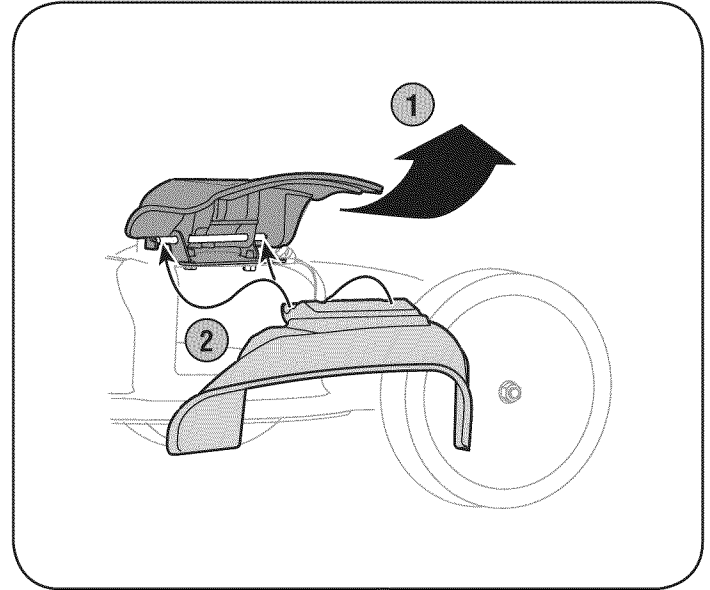

Figure 7
1. On the side of the mower, lift the mulching plug. See Figure 7.